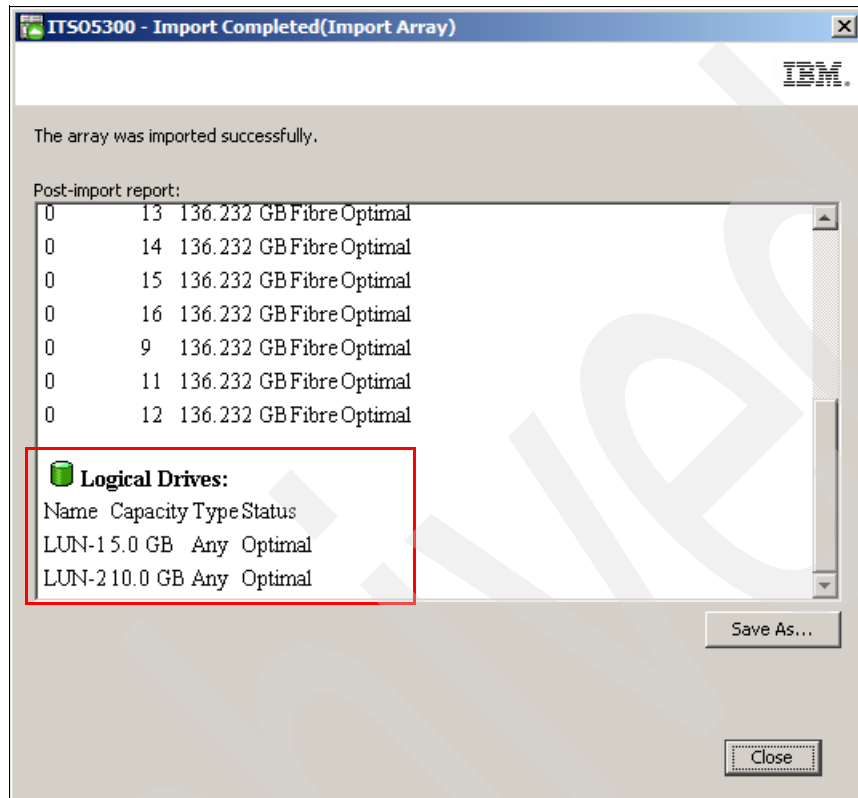

Figure 7-46 Import success
6. The next window (Figure 7-46) displays the result of the import process. Make sure that the operation finished successfully, and scroll down the window to see the logical drives imported with the array. Make sure that all of them are available and click **Close** to terminate the dialog.